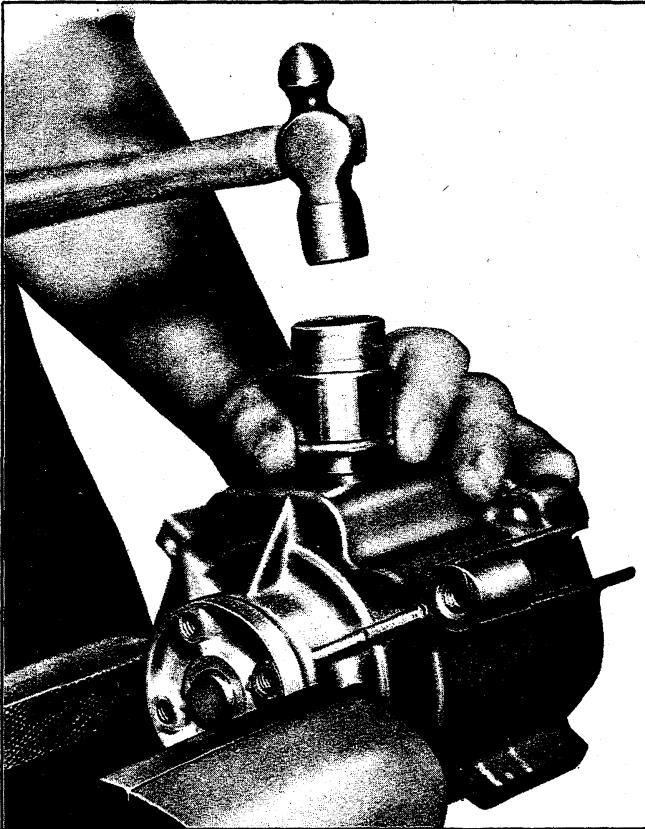

Fig. 7—Installing Pressure Relief Valve
2. Using a 15/16" socket tap the relief valve into housing until the valve shoulders on the housing (fig. 7).